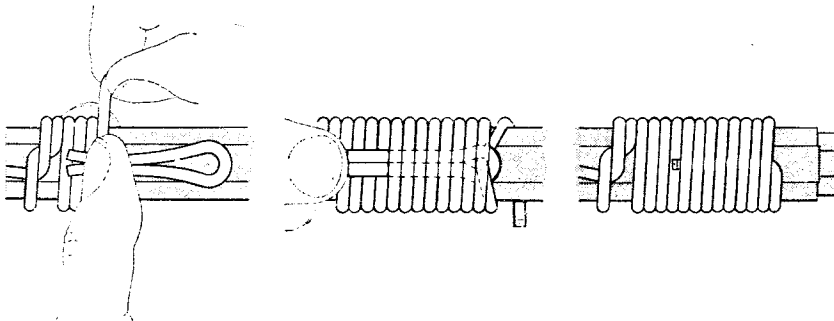

Fig. 31. Terminating lacing
c. *Finish.* To terminate the cable lacing wrap the cord four times round the loom, tight against the last lock stitch. Using a separate piece of cord, form a loop and lay it along the loom (Fig. 31). Wrap eight turns over the loop and pass the end of the running cord through the loop. Pull the loop out by its free ends, thus locking the cord under the last eight turns. Cut off any excess cord.